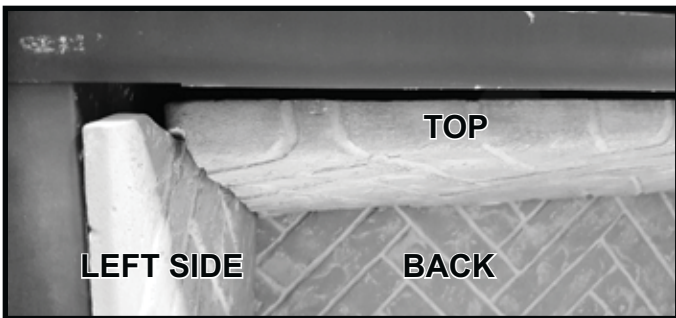

Figure 11.5 Install Top Refractory Panel - Left Side Shown
- Install the top refractory panel by placing onto the left and right side refractory pieces as shown in Figure 11.5 and sliding toward the rear of the firebox.